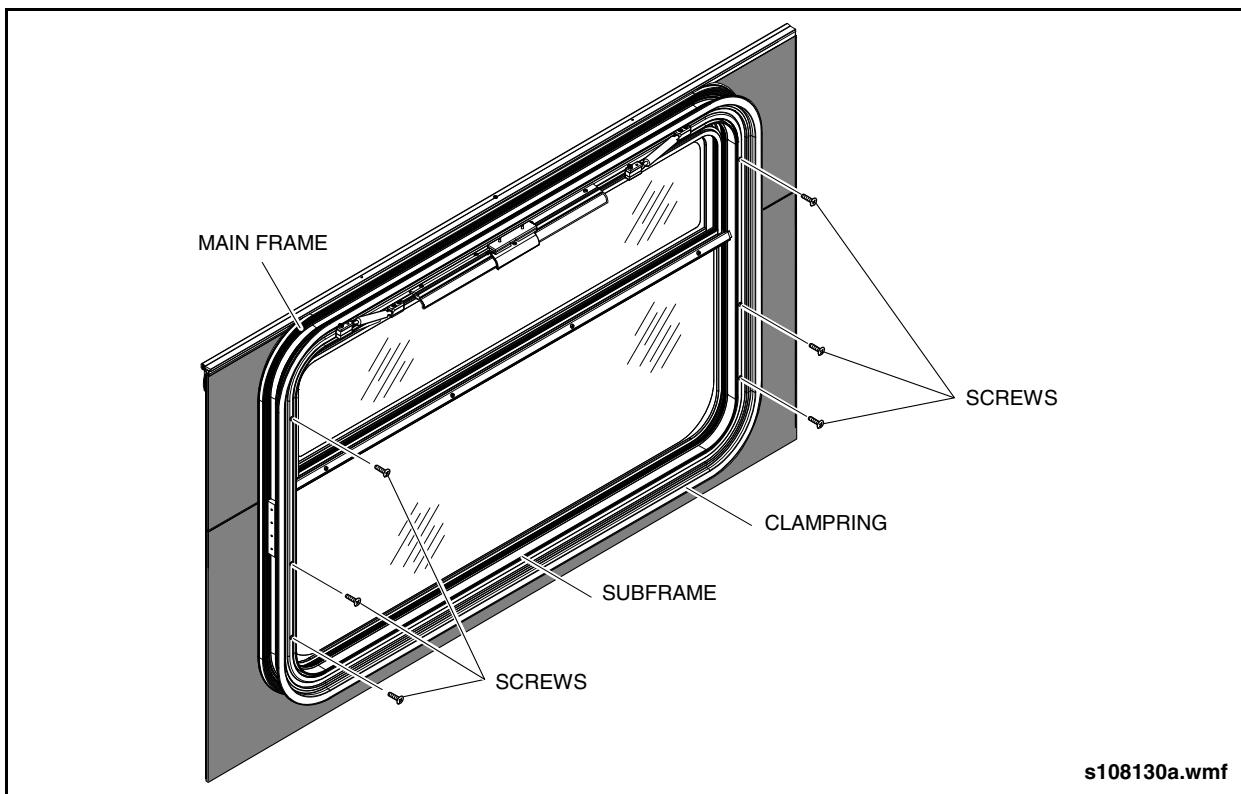

Fig. 14-13: Non-Emergency Window Frame Removal
1. Remove the centering screw from the female hinge attached to the top of the sub frame. From the inside of the vehicle, remove the six screws that attach the frame to the subframe and prop the window open with prop rod. Use an Allen wrench to remove the two socket head screws from the underside of the subframe. See "Fig. 14-13: Non-Emergency Window Frame Removal" on page 16.